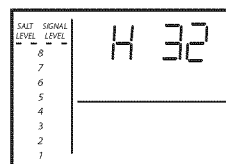

FIG. 64
- Press and hold the SELECT1 button for 3 seconds until a model code shows in the display, see Fig. 64.